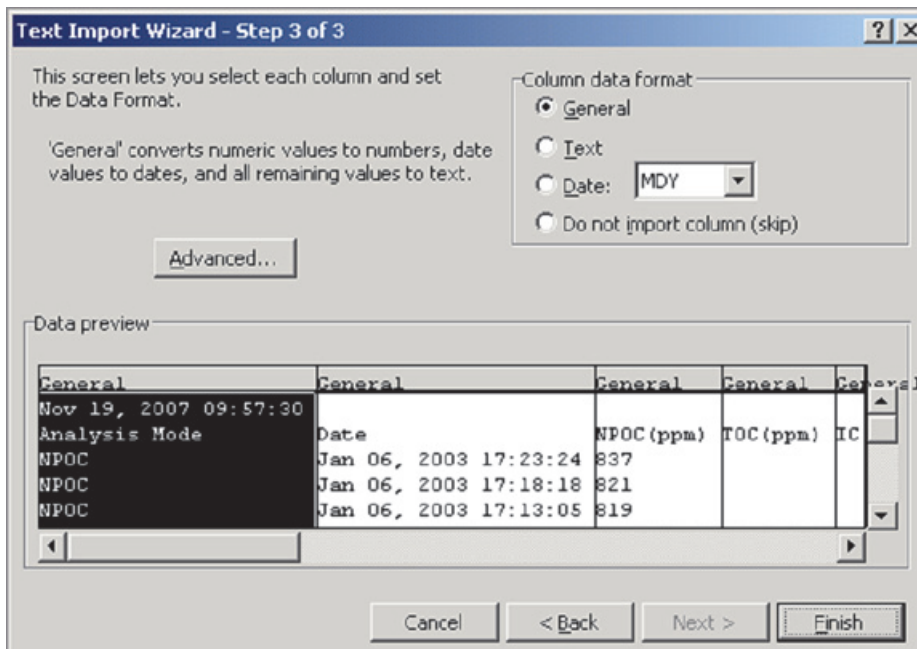

Figure 96: Excel Spreadsheet Program — Text Import Wizard - Step 3
8. The screen displays a preview of the data that will be imported. If desired, you can select a column and assign a **Column data format** (Figure 96). Click **Finish** to continue.